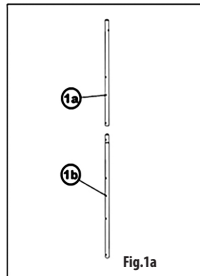
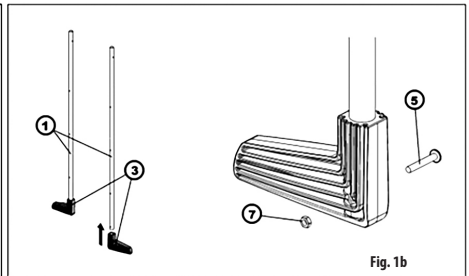

Fig.1a
Fig. 1b
Put the lower elbows (3) on the correct ends (according to the holes) of stile tubes (1). Secure them in place using appropriate screws (5) and nuts (7) (Fig. 1b). For the divided ladder intended for the pools of 1.20 m depth pair the upper part (1a) and the lower part (1b) of stiles, (Fig. 1a).